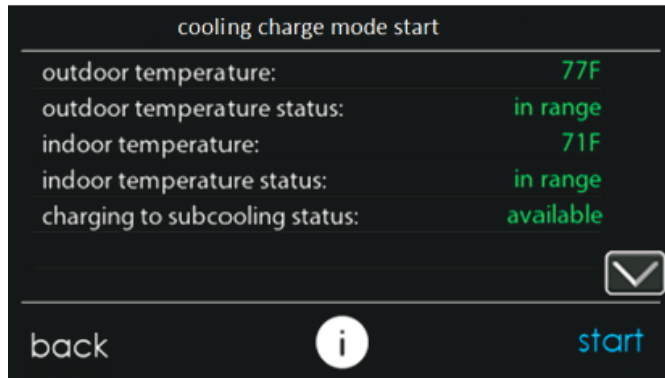
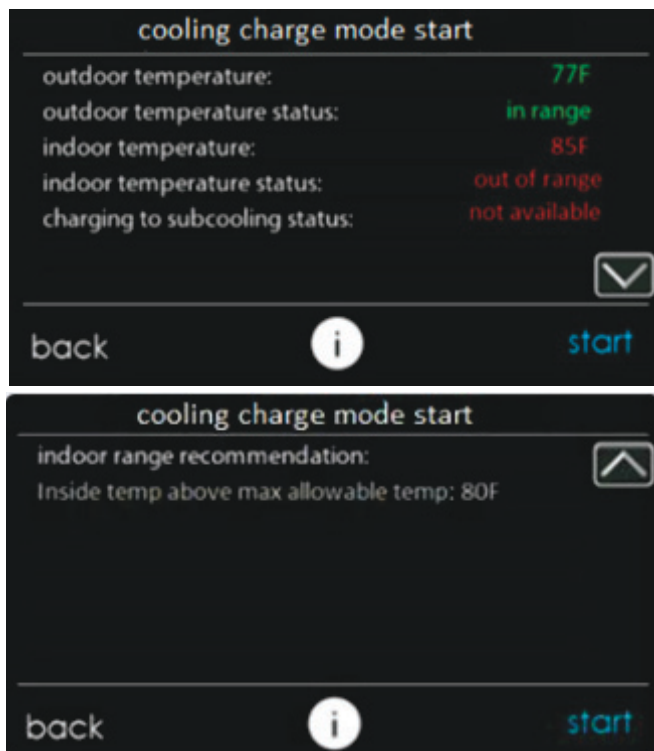

Fig. 16 – Cooling Charge Mode Start Screen - Subcooling Available
Fig. 17 – Cooling Charge Mode Start Screen - Subcooling Unavailable
8. The next screen, “cooling charge mode start” is shown in Fig. 16 or Fig. 17 depending on whether subcooling charging is available. The reason for unavailability of subcooling can be viewed by pressing the down arrow to go to the second page. Before selecting “Start”, verify that the service valves are open. Pressing start will turn on the system at a fixed set of operating parameters in COOLING mode.